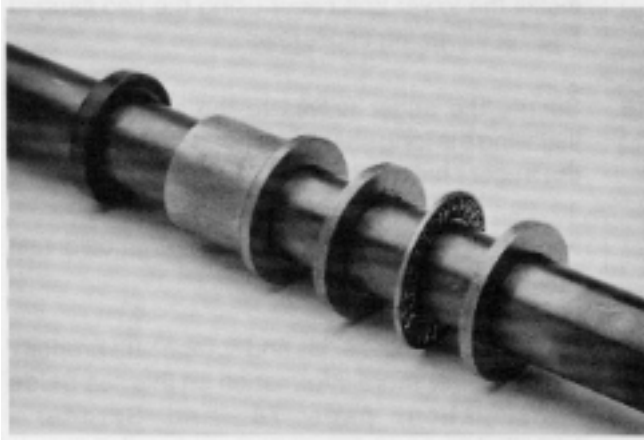

Figure 94
12. Lay the input shaft into the left gear box half, making sure that the thrust bearing components, the seal, and the bushings are in their proper locations. See Figure 94.